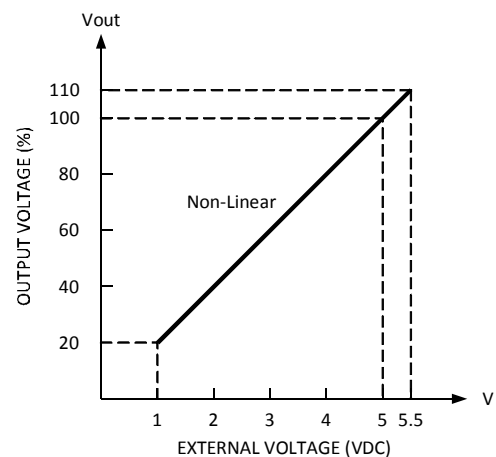

Fig 3.2
(3) Adjustment of output voltage is possible between 20~110%(Typ.) of the rated output which is shown in Fig 3.2.